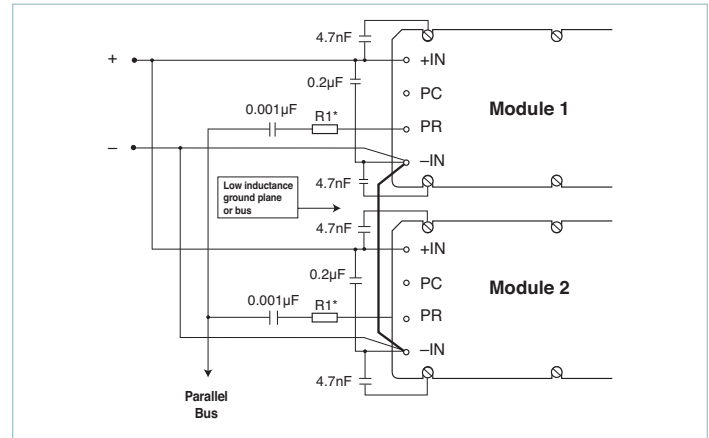

Figure 9 — AC-coupled single-wire interface
**AC-coupled single-wire interface.** All PR pins are connected to a single communication bus through 0.001µF (500V) capacitors. This interface supports current sharing and is fault tolerant except for the communication bus. Up to three converters may be paralleled by this method. See Figure 9.